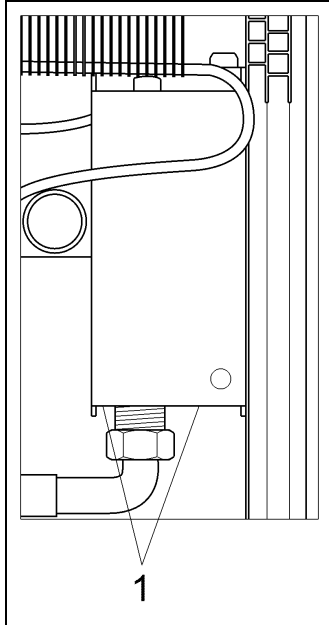

Figure 010-30: Inlet Valve Cover
2. Unclip the cover using a flathead screwdriver; see Figure 010-30, Item 1.